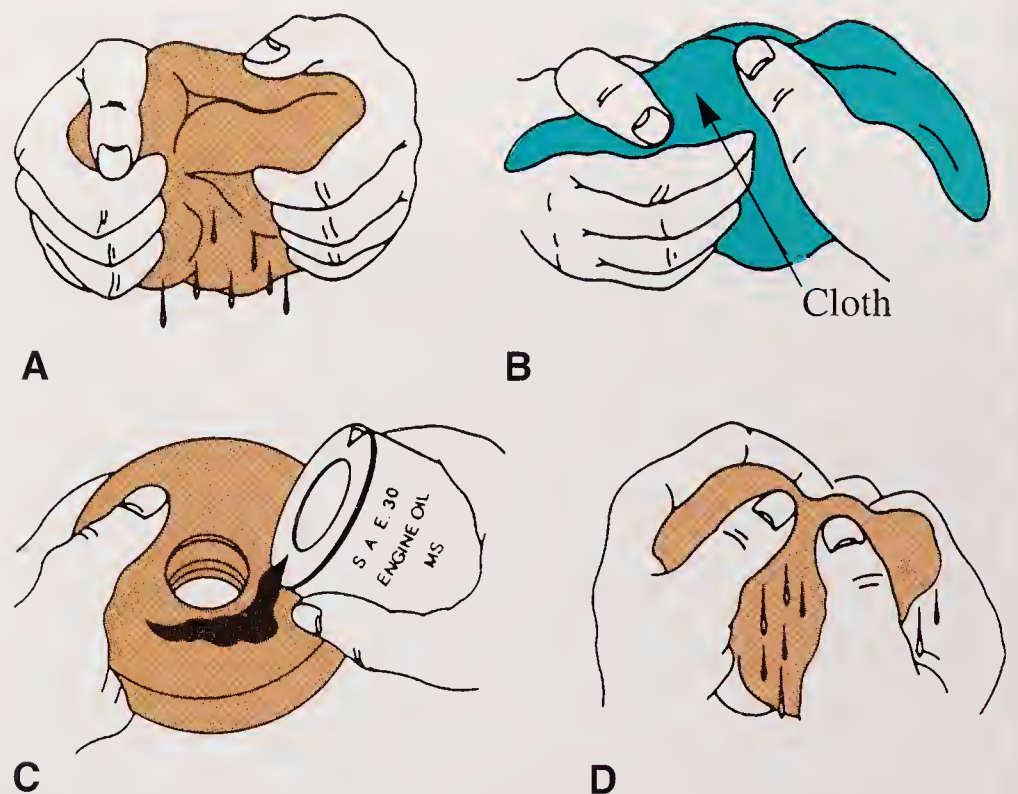

Figure 18-29. Cleaning the oil-foam air filter.
3. Wash the element thoroughly in liquid detergent and water. Follow the steps in **Figure 18-29**.